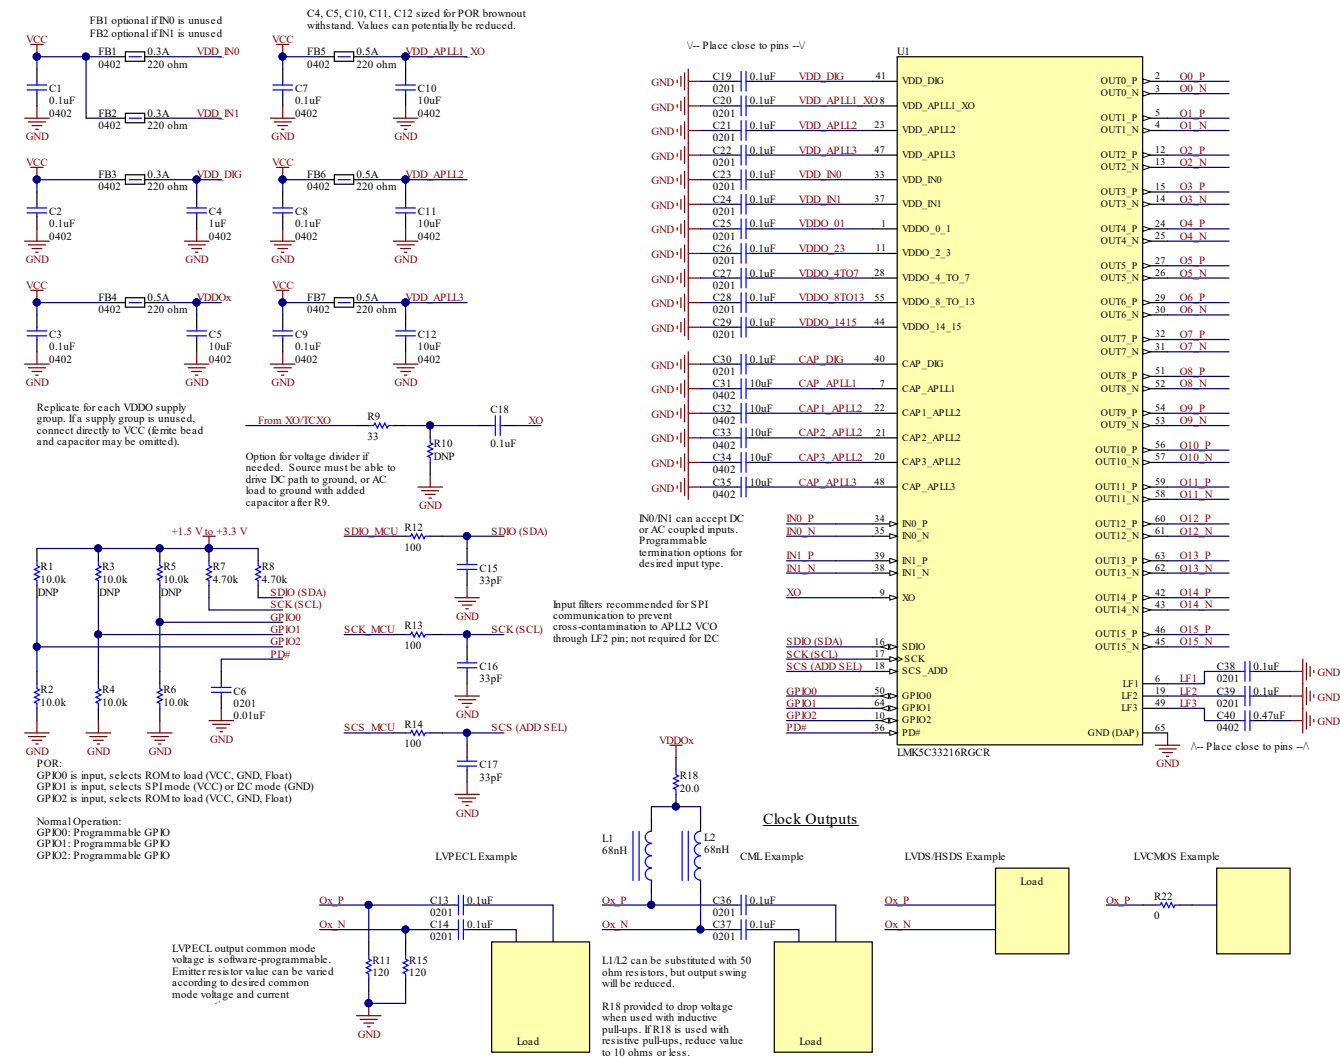

Figure 10-3. Reference Schematic Example
Figure 10-3 shows a reference schematic to help implement the LMK5C33216 and its peripheral circuitry. Power filtering examples are given for the core supply pins and independent output supply pins. Single-ended LVCMOS, LVDS, HSDS, LVPECL, and CML open collector clock interfacing examples are shown for the clock input and output pins. An external CMOS oscillator drives an AC-coupled voltage divider network as an example to interface the 3.3-V LVCMOS output to meet the input voltage swing specified for the XO input. The XO pin of the LMK5C33216 can accept 3.3V LVCMOS input. The required external capacitors are placed close to the LMK5C33216 and are shown with the suggested values. External pullup and pulldown resistor options at the logic I/O pins set the default input states. The I²C or SPI pins and other logic I/O pins can be connected to a host device (not shown) to program and control the LMK5C33216 and monitor its status.
- Reference inputs: Follow the LVCMOS or differential clock input interface examples in Figure 10-3 or Section 9.3.3.
- Clock output Interfacing: Follow the single-ended or differential clock output interface examples in Figure 10-3 or Section 9.3.16.
- Power all the VDD pins with proper supply decoupling and bypassing connect as shown in Figure 10-3.